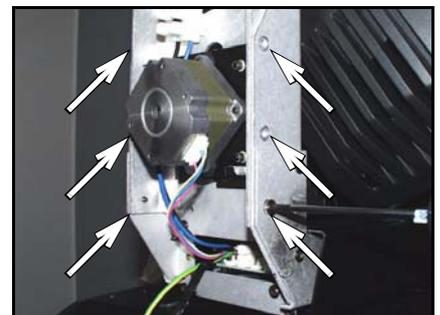

**Fig. 84** Support the head
- 6 Unlock and support the head under the right side. (Fig. 84)